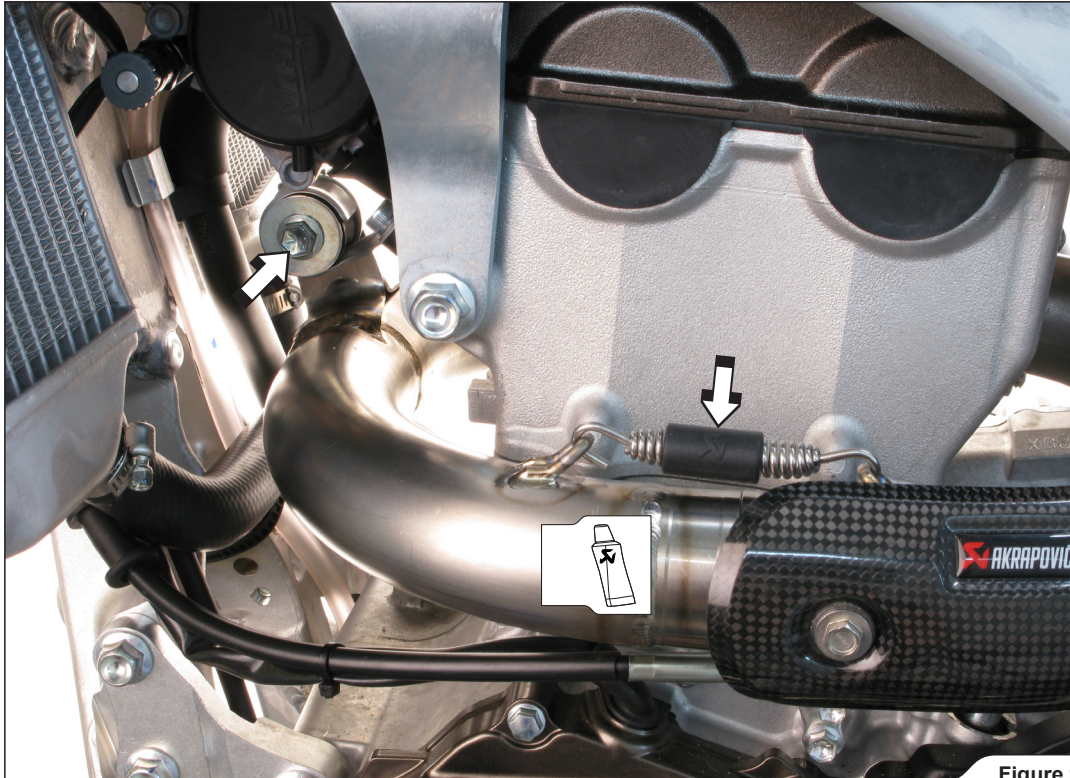

Figure 9
4. Correctly position the link pipe and slide it onto the header pipe. Attach the spring and hand tighten the link pipe's bracket, using stock bolt and washer (Figure 9).